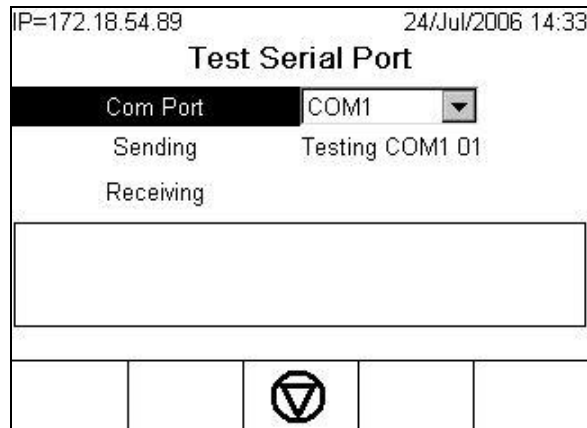

Figure 4-25: Serial Test Screen
- Press the START soffkey  and a data string is output repeatedly approximately once every 3 seconds (Figure 4-25). The data is: [Testing COMx: nn] where “x” is the COM port and “nn” is an incrementing value beginning at 00 and continuing to 99. Each transmission increments this number by one.